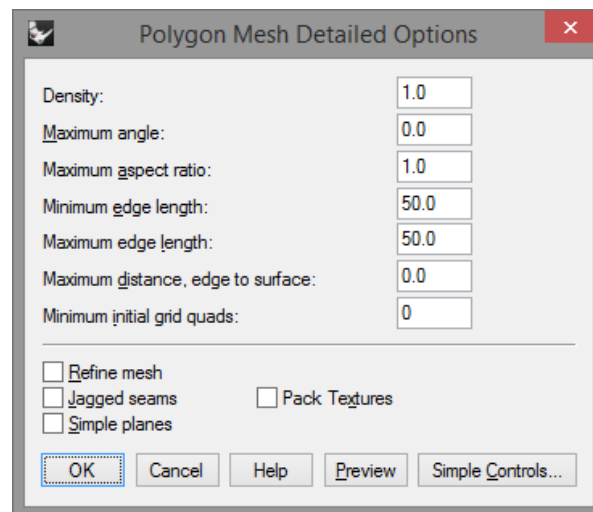

Figure 166: Meshing options.
8. Select the polysurface and **_Mesh** with Detailed Mesh parameters shown below (Figure 166).